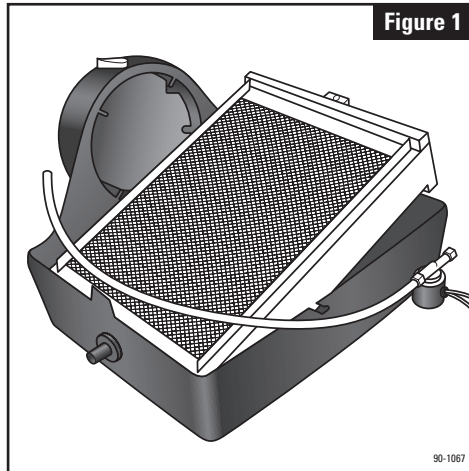
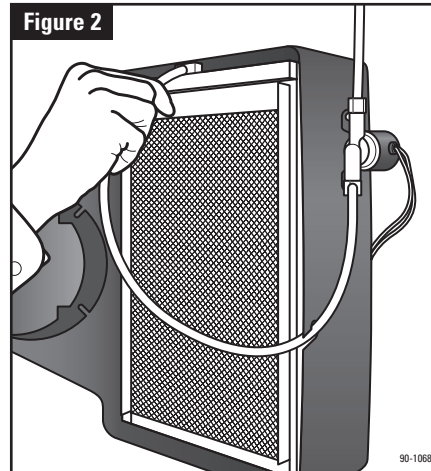

Figure 1
Figure 2
1. Press top & bottom tabs to remove cover (1). Pull feed tube (3) out of distribution tray (4). Remove Water Panel® Evaporator assembly. See **Figure 1**.
2. Humidifier is supplied with bypass duct connection on left. For right side bypass, swap location of drain spud (9) and cap (10). Twist to remove spud and cap.
4. Place humidifier base (2) in opening and secure with 6 screws in openings provided.
6. Insert Water Panel Evaporator assembly into base. Make sure bottom of scale control insert (6) is in drain spud. Snap top of evaporator assembly into base. Insert feed tube into distribution tray. See **Figure 2**. Rotate nameplate (11) if necessary, so it is right side up. Place point bypass damper handle (8) to "WINTER" (open) for heating season and "SUMMER" for cooling season.